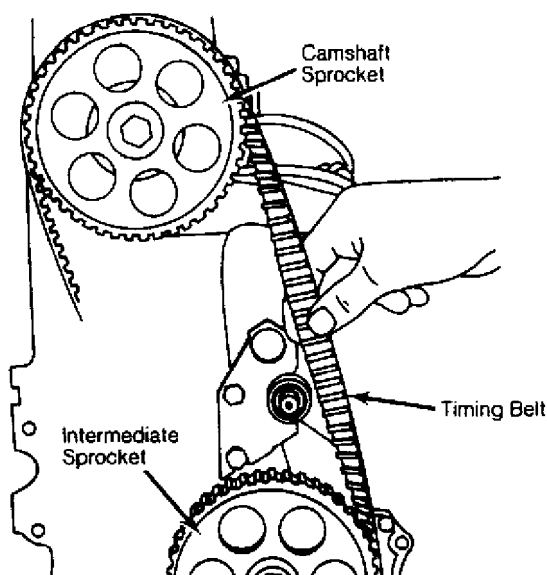

Fig. 12: Checking Timing Belt Tension
3) Rotate tensioner clockwise to tighten belt and install lock nut. Proper deflection is achieved when longest span of belt between sprockets can be twisted 90 degrees. See Fig. 12. By hand, rotate crankshaft 2 turns and check timing mark alignment. To complete installation, reverse removal procedure.